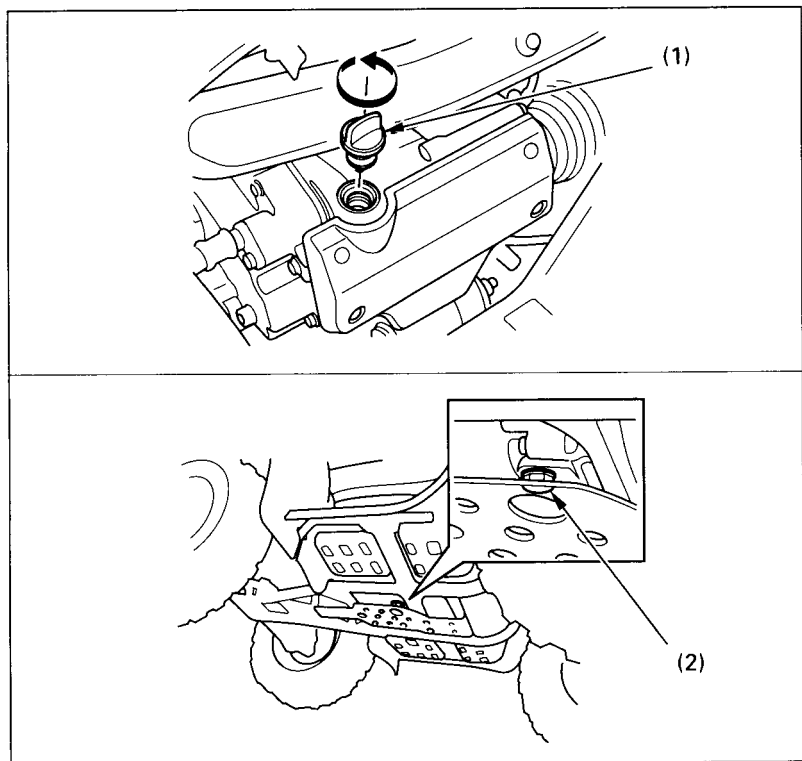

Fig. 4-11
1. With the FOURTRAX on level ground, remove the oil filler cap (1) from left side of the crankcase (Fig. 4-11).
2. Place an oil drain pan under the crankcase and remove the oil drain plug (2).